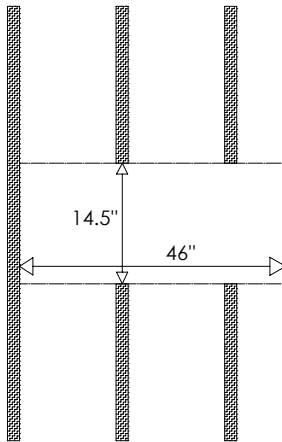

Figure 16
2. Cut completely through the wall studs that fall inside the space needed for the SCL-2 (Figure 16). **MAKE SURE IN ADVANCE THAT THEY ARE NOT LOAD BEARING STUDS.**